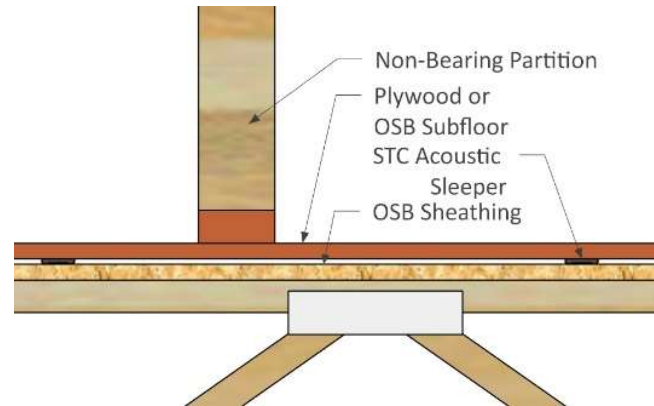

Figure 11: Typical Section Detail at Non-Load-Bearing Partitions
- Fig. 11: Typical detail for non-load-bearing partitions. No bearing strip required. Avoid loads on partitions.